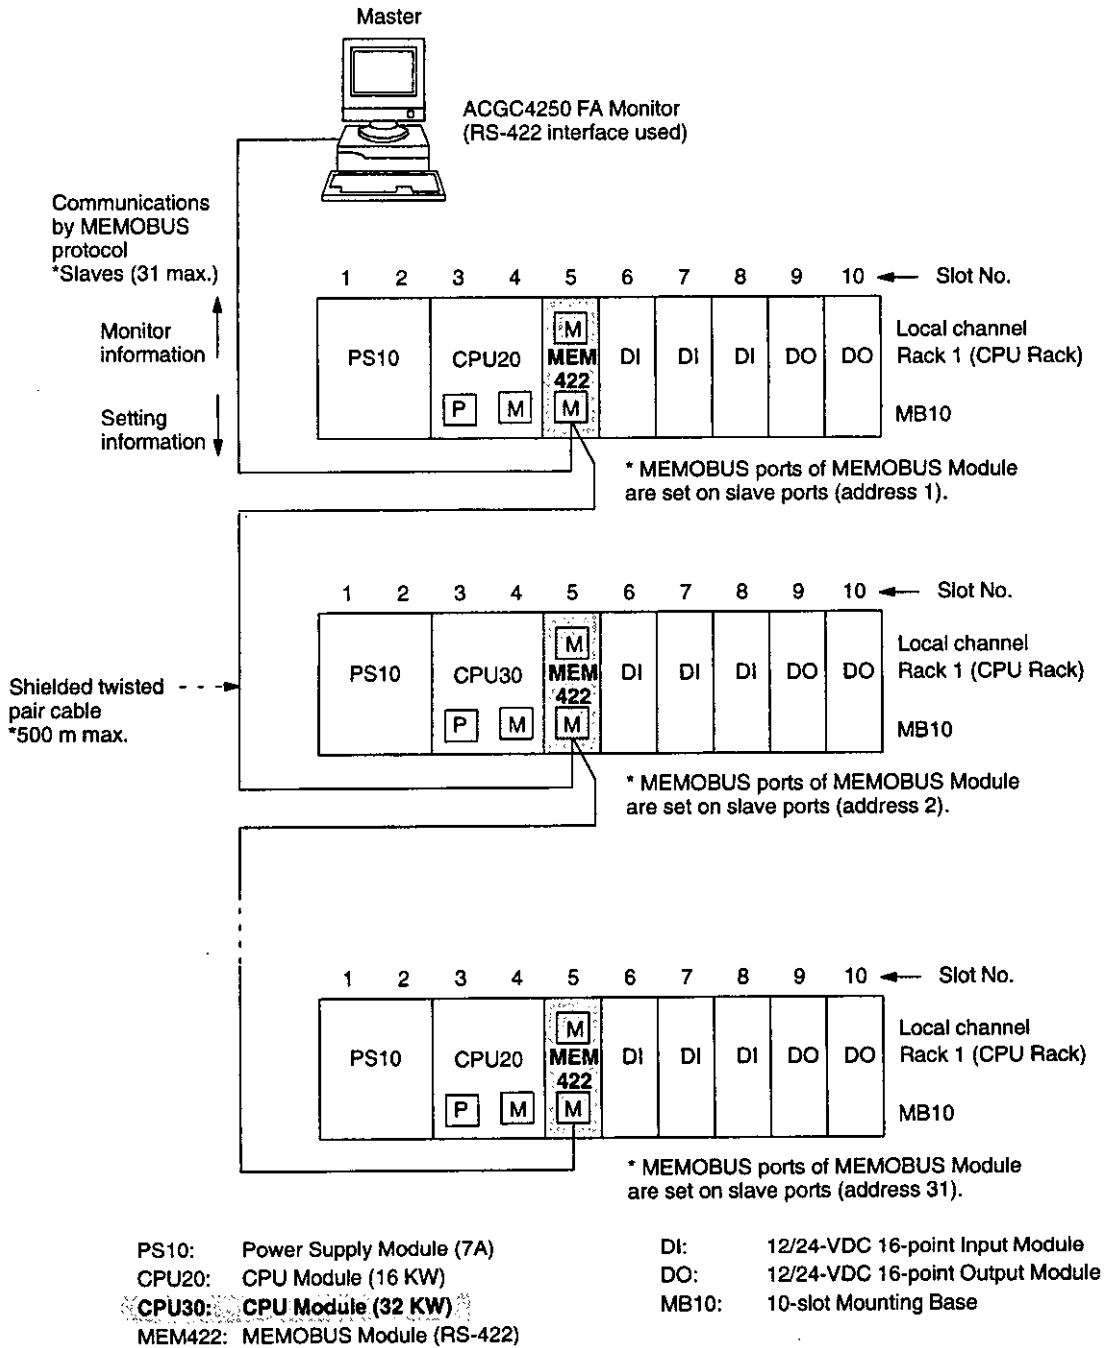

Figure 2.5 Connecting ACGC4250 FA Monitor (1: 31 communications)
- c) Examples of how to use the MEMOBUS Module are shown in *Figure 2.5* to *Figure 2.8*.